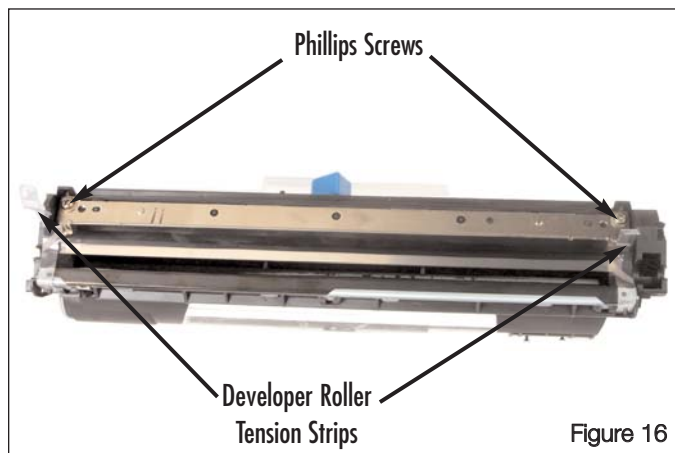

Figure 16
- b. Secure the doctor blade with the two Phillips screws (Figure 16).
**Note:** Ensure the developer roller tension strips are positioned in front of the doctor blade. See Figure 16.